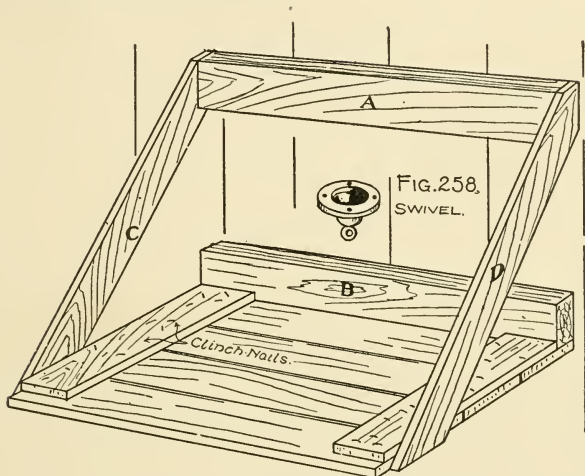

FIG. 257. — A Punching-bag Platform.
**The Punching-bag Platform**, illustrated by Fig. 257, should be made thirty inches square and suspended from the shed or a wall.